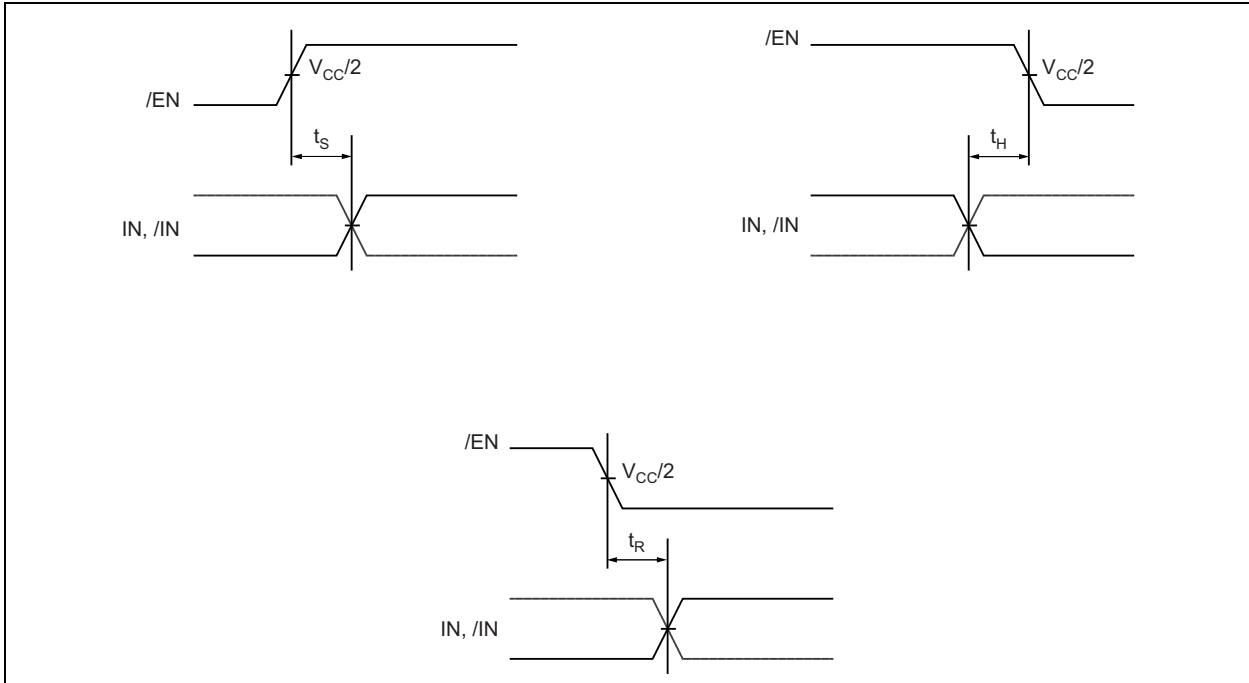

FIGURE 4-3: Setup, Hold, and Release Time: IN and $/EN$.
- 4:** This setup time is the minimum time that /EN must be asserted prior to the next transition of IN / /IN to prevent an output response greater than ± 75 mV to that IN or /IN transition. See Figure 4-3.
- 6:** This hold time is the minimum time that /EN must remain asserted after a negative going transition of IN to prevent an output response greater than ± 75 mV to the IN transition. See Figure 4-3.
- 7:** This release time is the minimum time that /EN must be de-asserted prior to the next IN / /IN transition to affect the propagation delay of IN to Q less than 1 ps. See Figure 4-3.